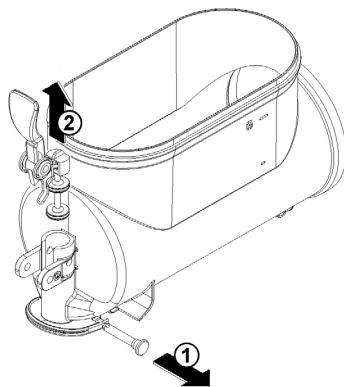

figure 9
- 3 Assemble the faucet by reversing the disassembly steps (see figure 9)